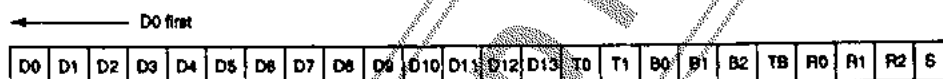

Figure 2. Input data format
control bits (T0 and T1), three bandswitching output control bits (B0 to B2), one timebase control bit (TB), three reference frequency select bits (R0 to R2) and one divider select bit (S) as shown in figure 2.